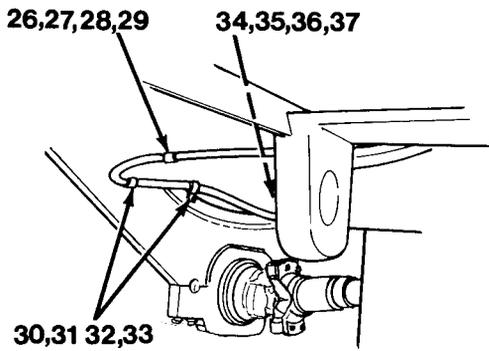
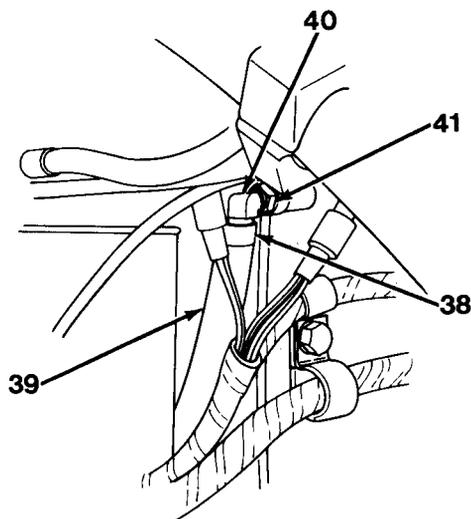
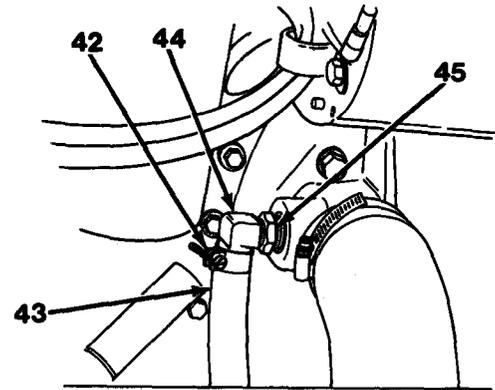

Figure 17-5
Figure 17-6
Figure 17-7
18. Remove nut (26), washer (27), clamp (28) and washer (29, Figure 17-5).
19. From rear axle and right frame, remove nut (30), washer (31), two clamps (32) and washer (33).
20. From rear axle and left frame, remove three nuts (34), washers (35), clamps (36) and washers (37).
21. Loosen clamp (38) and disconnect hose (39, Figure 17-6).
22. Remove clamp (38) and hose (39).
23. Remove 90-degree elbow (40) and bushing (41).
24. Loosen clamp (42) and disconnect hose (43, Figure 17-7).
25. Remove clamp (42) and hose (43).
26. Remove 90-degree elbow (44) and bushing (45).
1. Install bushing (45) and 90-degree elbow (44, Figure 17-7).
2. Install hose (43) and clamp (42).
3. Install bushing (41) and 90-degree elbow (40, Figure 17-6).
4. Install hose (39) and clamp (38).
5. Install three washers (37), clamps (36), washers (35) and nuts (34, Figure 17-5) on rear axle and left frame.
6. Install washer (33), two clamps (32), washer (31) and nut (30) on rear axle and right frame.
7. Install washer (29), clamp (28), washer (27) and nut (26).